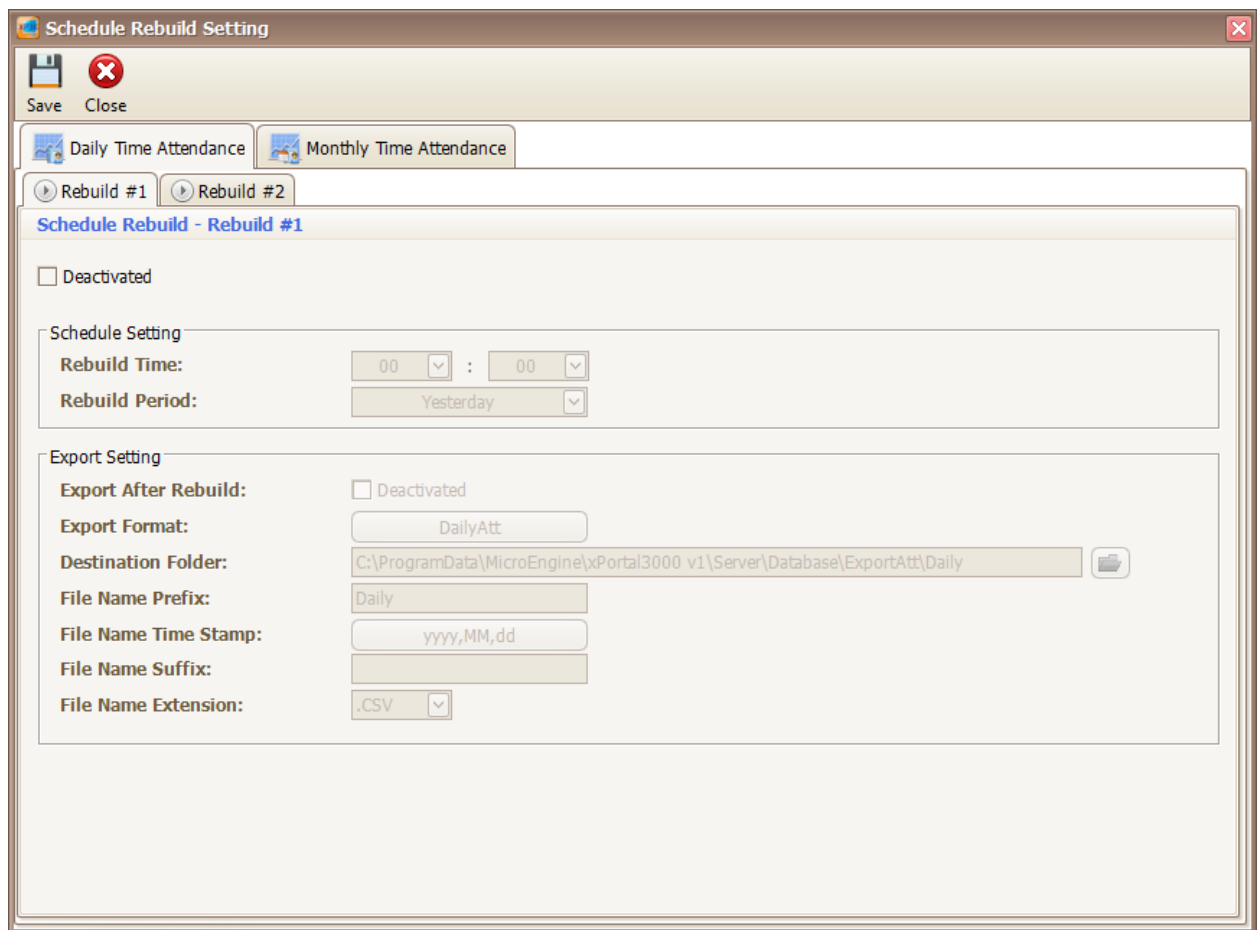

Figure 228 - Schedule Rebuild Setting
2. The following window will be shown (Refer **Figure 228**). There are 2 schedule rebuild that you can use.